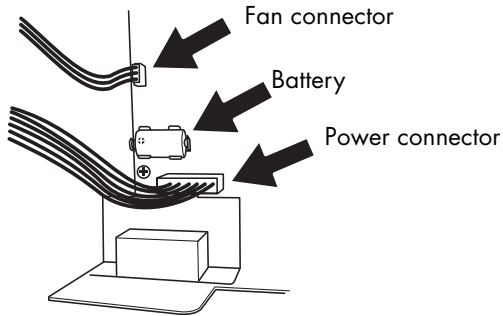
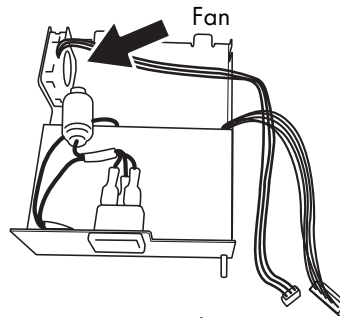

Figure 11.2.1a
Figure 11.2.1b
Figure 11.2.1a shows the locations of the battery, the fan connector and the power connector. Figures 11.2.1b and 11.2.1c, show the high voltage ac/dc supply and low voltage dc supply units, respectively, with cover removed. It is recommended that the cover be removed only if absolutely necessary, because the (latching) power connector is difficult to disconnect/reconnect.
1. Once the cover is open, the exhausted battery (located as shown in figure 11.2.1a) can be prized out of its holder, and the replacement fitted.